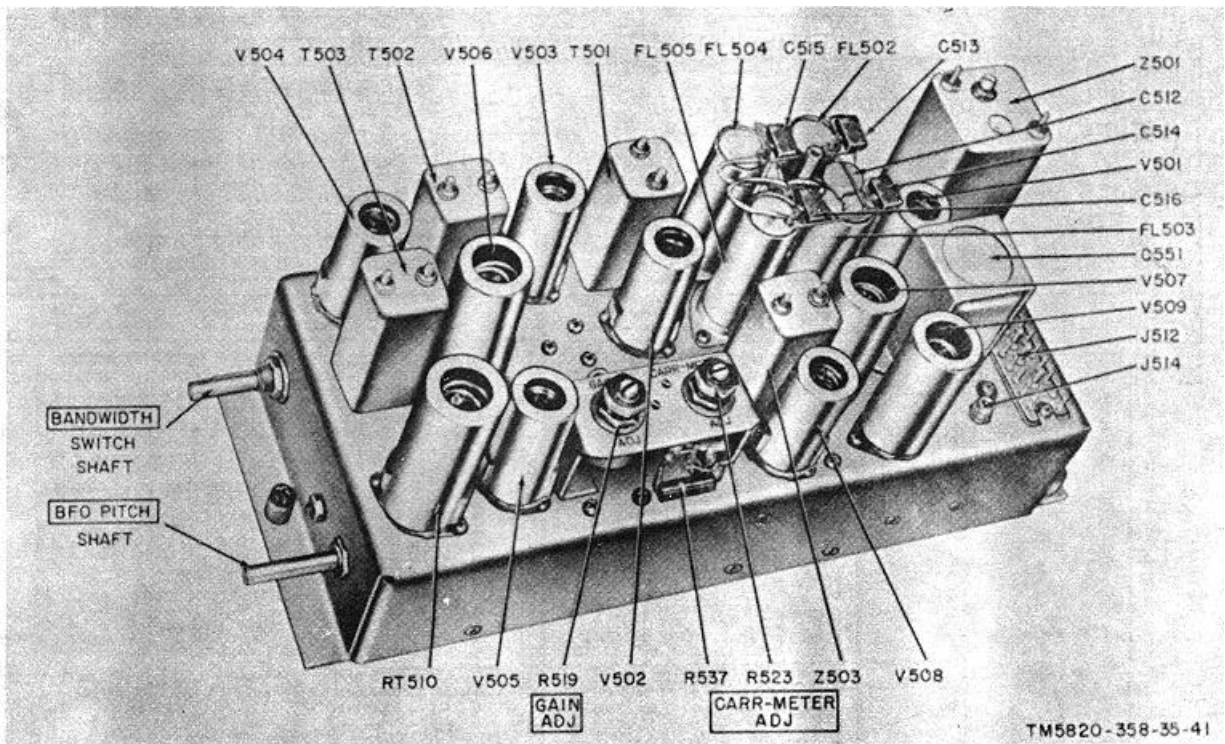

Figure 38. Unmodified if. subchassis, top view.
g. If the AN/URM-25(\*) output is above or below the limits set in f above, readjust the AN/URM-25(\*) output for 2 microvolts. Adjust GAIN ADJ control R519 (fig. 38) for a TS-505(\*)/U indication of -7 volts. If this adjustment fails to restore normal operation, the fault is in the rf, the if., or the detector portion of the receiver.
| 4    | Set operates normally but CARRIER LEVEL meter does not indicate.                  | Defective meter M102 (fig. 56) or meter circuit.               | Check meter by substitution. Use voltage and resistance diagram to check cathode circuit components of V504 and V506A (fig. 38 and 42).                                                                                                                                                                                                                                                                           |